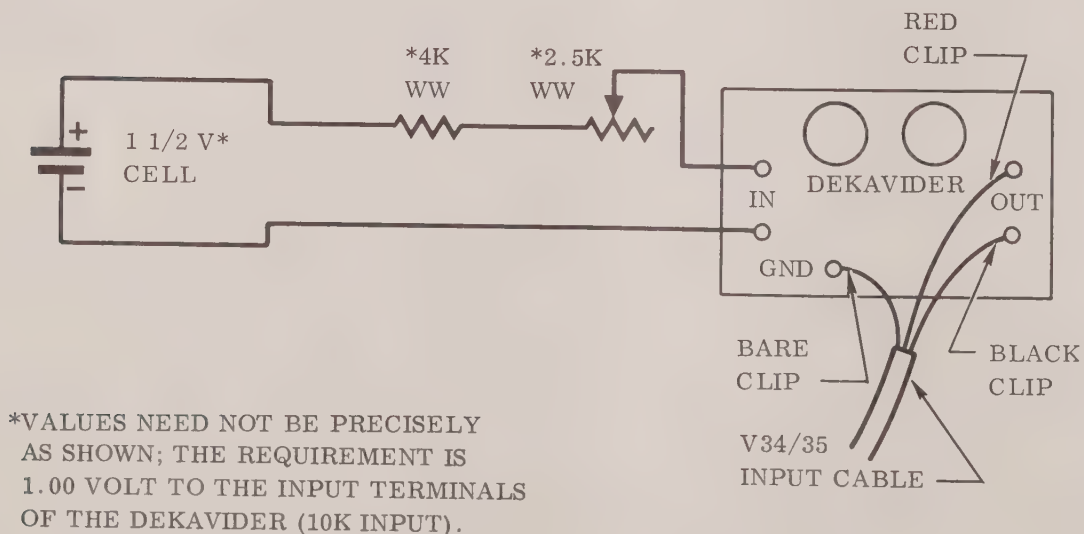

Figure 5-2. Voltage Source and Amplifier Input.
3. Voltage source, as shown in Figure 5-2.